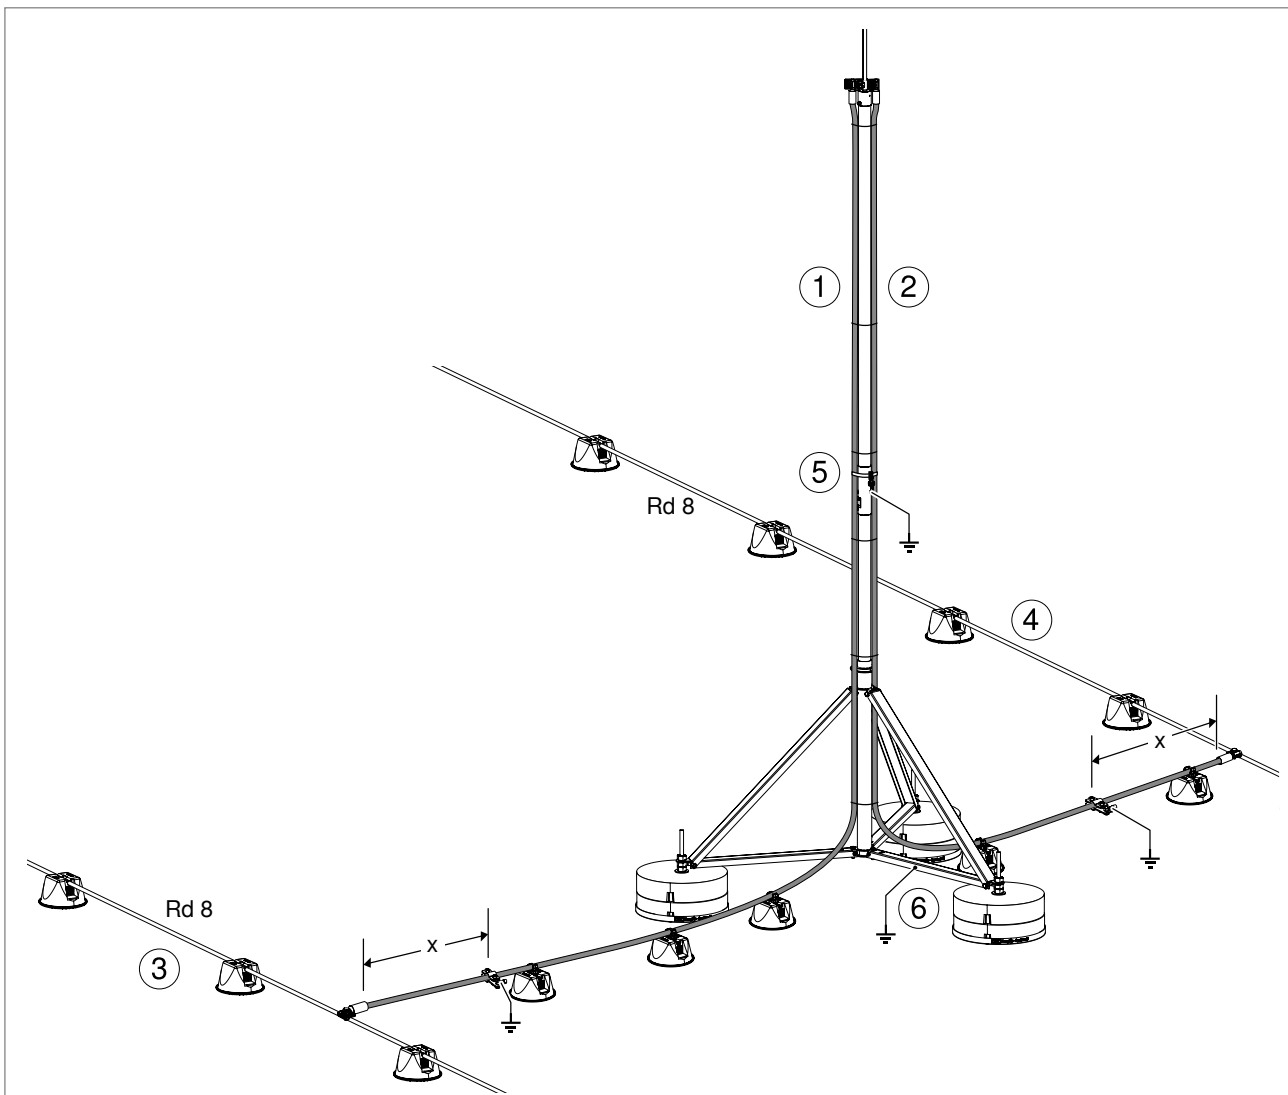

Fig. 65: Current division to two isCon® conductors, e.g. for lightning protection class I
In areas in which a conventional ring conductor would be difficult to install whilst maintaining the required separation distance (s) (e.g. to roof structures) (see Fig. 65 No. ②), the isCon® conductor ① can be integrated into the mesh, provided that the calculated separation distance is less than or equal to the equivalent separation distance of the isCon® conductor used.